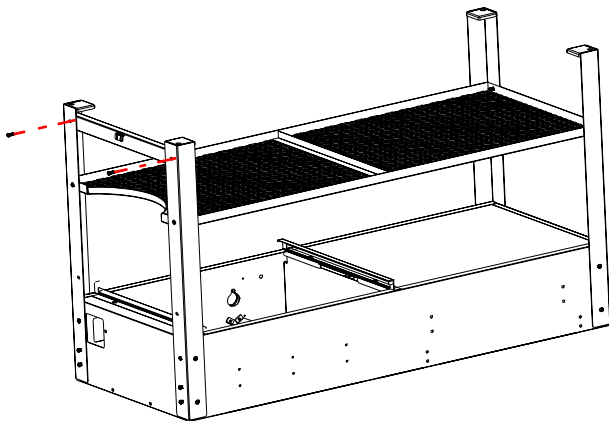

Fig. 4
*Locate:* The tubular Support Brace, (2) M6x15 bolts
Refer to Fig. 4 and attach the Support Brace to the **INSIDE** of the Left Side Front and Rear Legs using (1) M6x15 bolt at each end of the Brace.